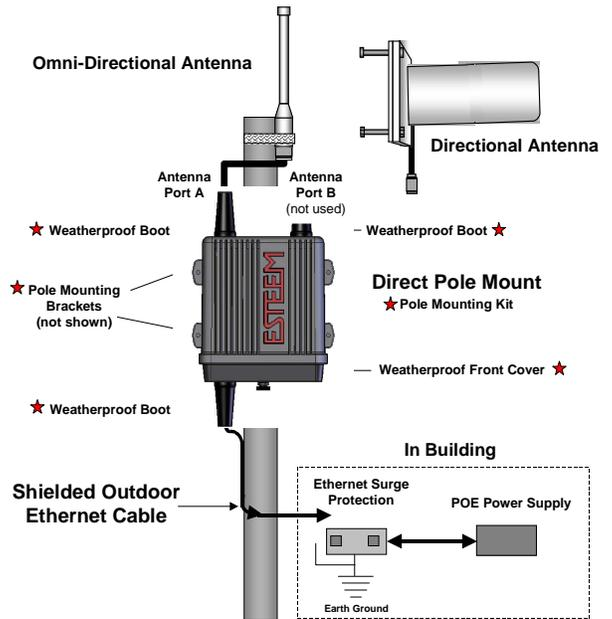

Figure 1: Pole Mounting Diagram
The ESTeem 195Eg is housed in a NEMA 4, watertight enclosure and rugged enough to withstand wind, rain, and temperatures from -30 to 60 degrees Centigrade and can be directly pole mounted (Figure 1). Not having to purchase enclosures or having to install expensive coax cable saved the ECOPETROL anywhere from \$900 to \$1300 dollars per installed site. In order to meet the challenge of providing sought after bandwidth, the 195Eg has up to 54 Mbps of radio frequency (RF) data rate and multiple RF channels in the 2.4 GHz frequency band. With a peak power of one (1) Watt, the ESTeem 195Eg is one of the most powerful radios on the market. Used in conjunction with high gain directional antennas on point to point connections, the ESTeem communicates the 47km that ECOPETROL needed for their upgrade project.